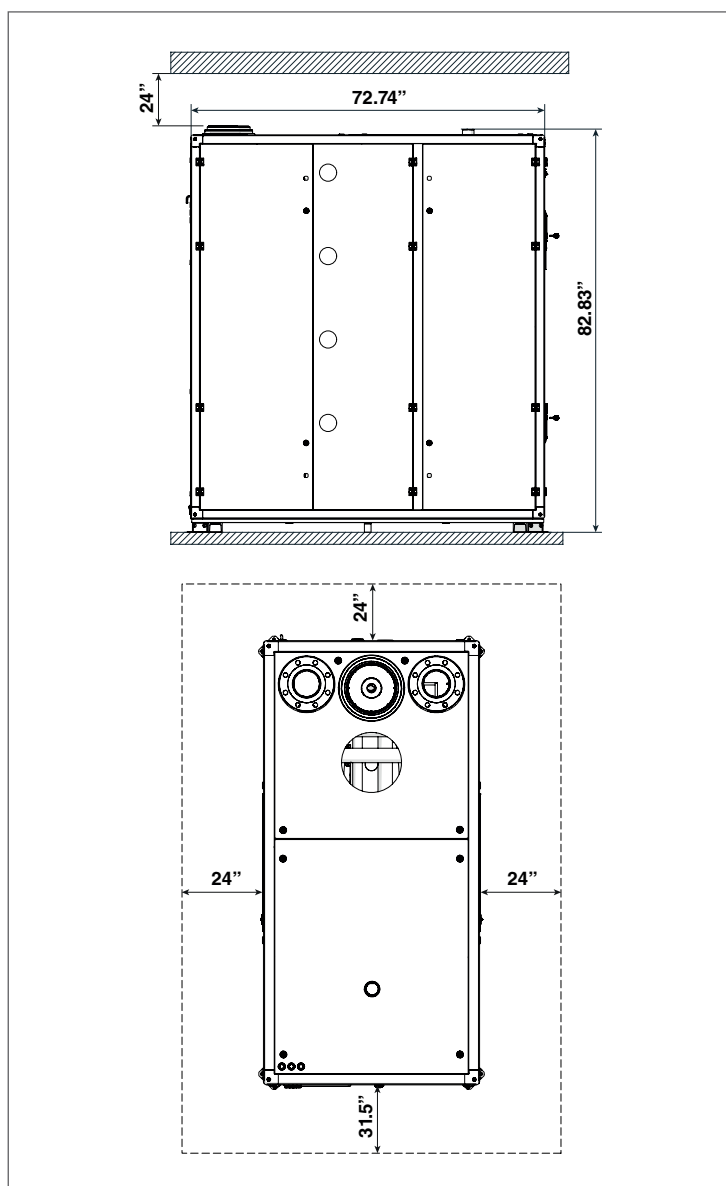

Fig. 3 Array AR 3000, AR 3000 Clearances
The unit must be installed with the prescribed clearances for service as shown in Fig. 3. The minimum clearance dimensions, required by **RIELLO**, are listed below. However, if Local Building Codes require additional clearances, these codes shall supersede **RIELLO**'s requirements.
**⚠ CAUTION:** While packaged in the shipping container, the unit must be moved by pallet jack or forklift from the **SIDE ONLY** (see Fig.3).